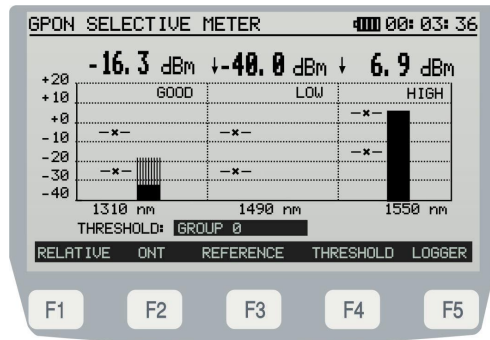

Figure 7.- GPON METER main screen in **ABSOLUTE** mode.
- 3.- Press the key  [17] or  [12]. It appears the **GPON METER** main screen (Figure 7).
The screen displays status messages depending on the power level in relation to the maximum and minimum threshold values (see figure 7). They are next: